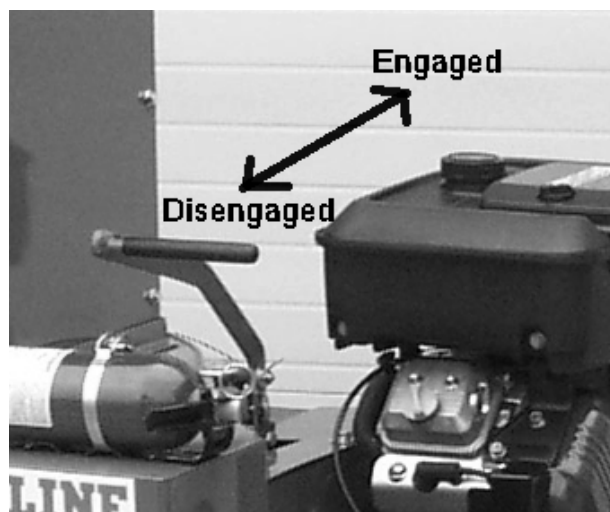

Figure 2 Rotor Clutch Engagement
5. Turn on the electric motor, apply power on the hydraulic unit or engage the rotor clutch on gas powered models (Figure 2.)